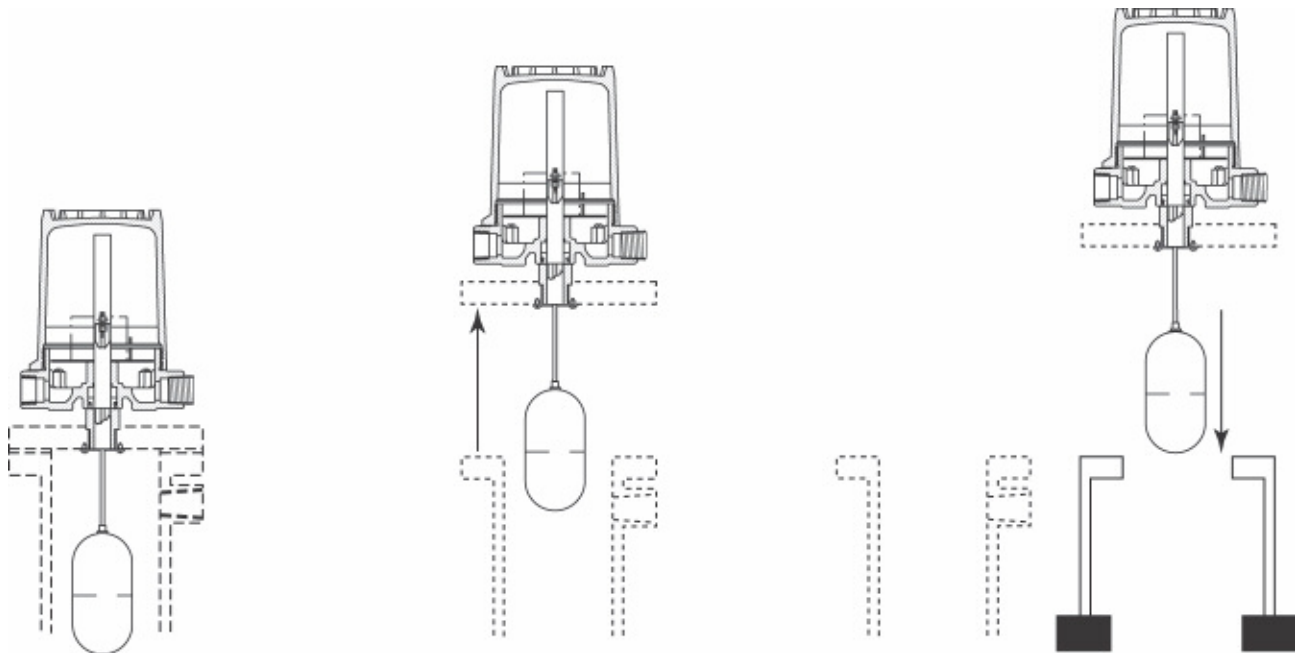

Figure 25
5. Prepare an area where the head assembly can be placed such that it rests on the flange in its normal orientation (two 2×4 boards placed across an open drum work well). Refer to Figure 25.
10. Replace the assembly keeping it as vertical as possible. Carefully lower the assembly into the chamber making sure that the stem does not become bent during installation. Refer to Figure 25.